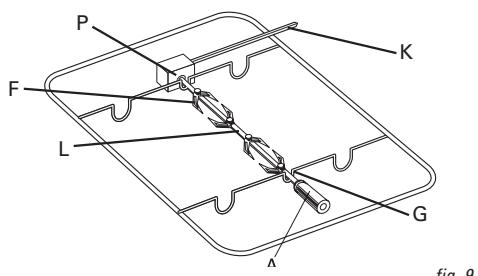

fig. 9
- Put the food on the spit (L) and secure it so that it is firmly attached and evenly distributed using the hooks (F). See fig. 9.
- Push the rotary spit into the opening (P) of the coupling and lay it at the front in the hook (G).
- Slide the rack with grill spit into the oven. Ensure that the drive shaft (K) falls into the opening of the grill motor. Place a baking plate with a little bit of water under the rotary spit.